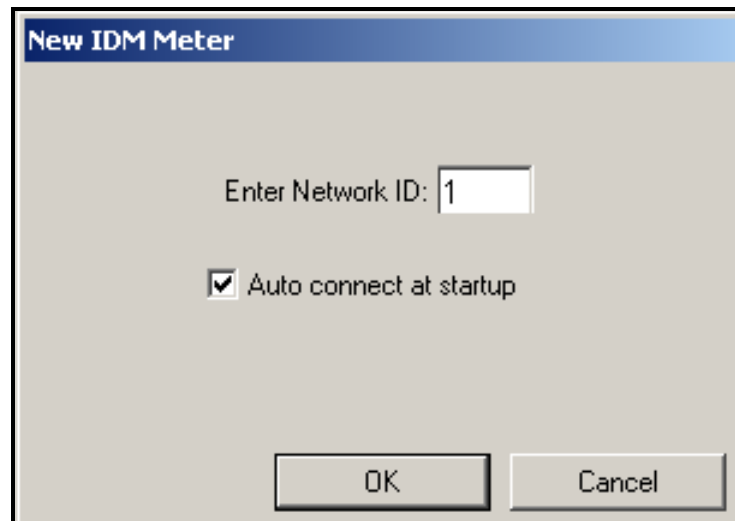

Figure 22: New IDM Meter Screen
4. The “New IDM Meter” screen (shown in Figure 22) opens. Enter the Network ID number for the meter, and click [OK].